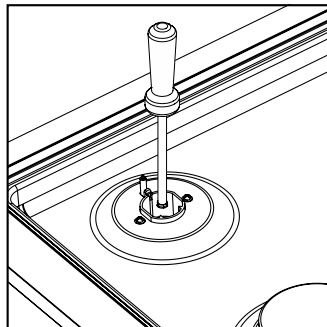

figure 1
- 4 Unscrew the orifices and replace them with the correct ones. (size numbers are stamped on the side, e.g.. 70= 0.70mm) (see fig. 1).